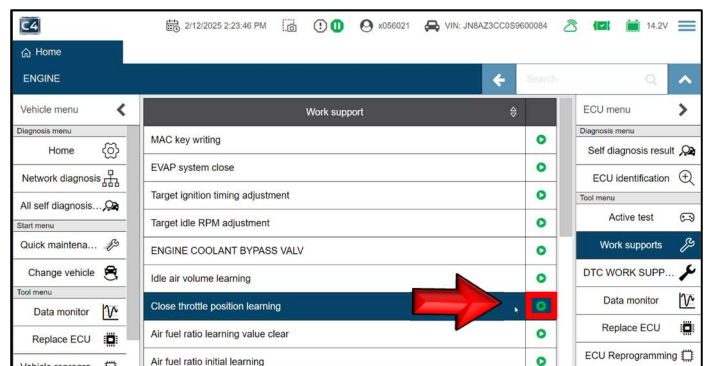

Figure 25
26. Locate and select the **"Play"** button for **Close throttle position learning**. (Figure 25)